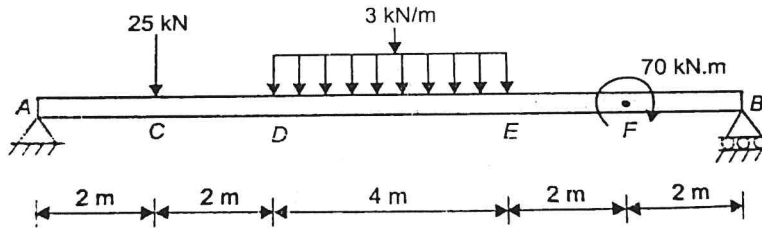

Figure Q.13 (a)
13. a) For the loaded beam shown in figure Q. 13 (a). Determine the deflection at point C. Take $E = 2 \times 10^5 \text{ N/mm}^2$ and $I = 5 \times 10^8 \text{ N/mm}^4$.